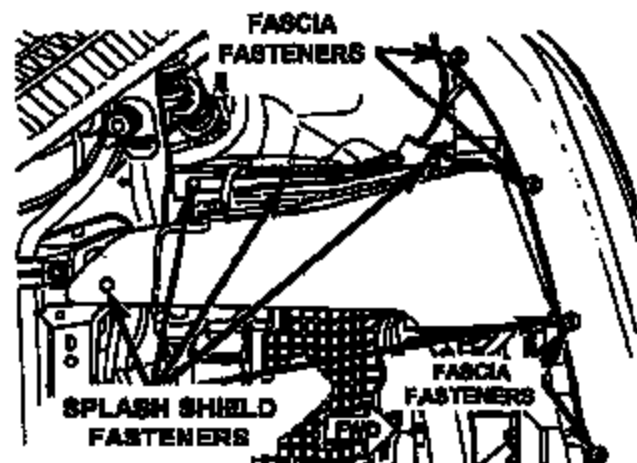

Figure 6 -- Viewed from below
6. Remove the right front lower wheel well/drive belt splash shield (Figure 6).
22. Install the lower wheel well/drive belt splash shield (Figure 6).